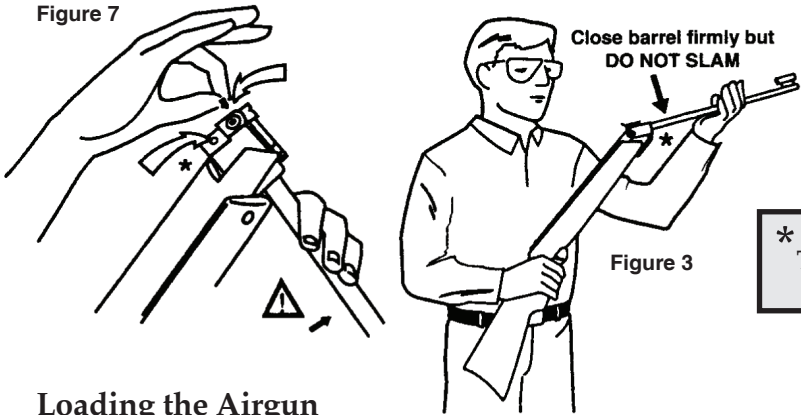

Figure 3
7. Now, WITHOUT TOUCHING THE TRIGGER OR SAFETY, pull the barrel fully upward, completing the cocking action. You will feel it and when the piston clicks into the cocking position. See Figure 3.
5. Lock the barrel closed by rotating it upward until you hear the locking mechanism click. See Figure 3.